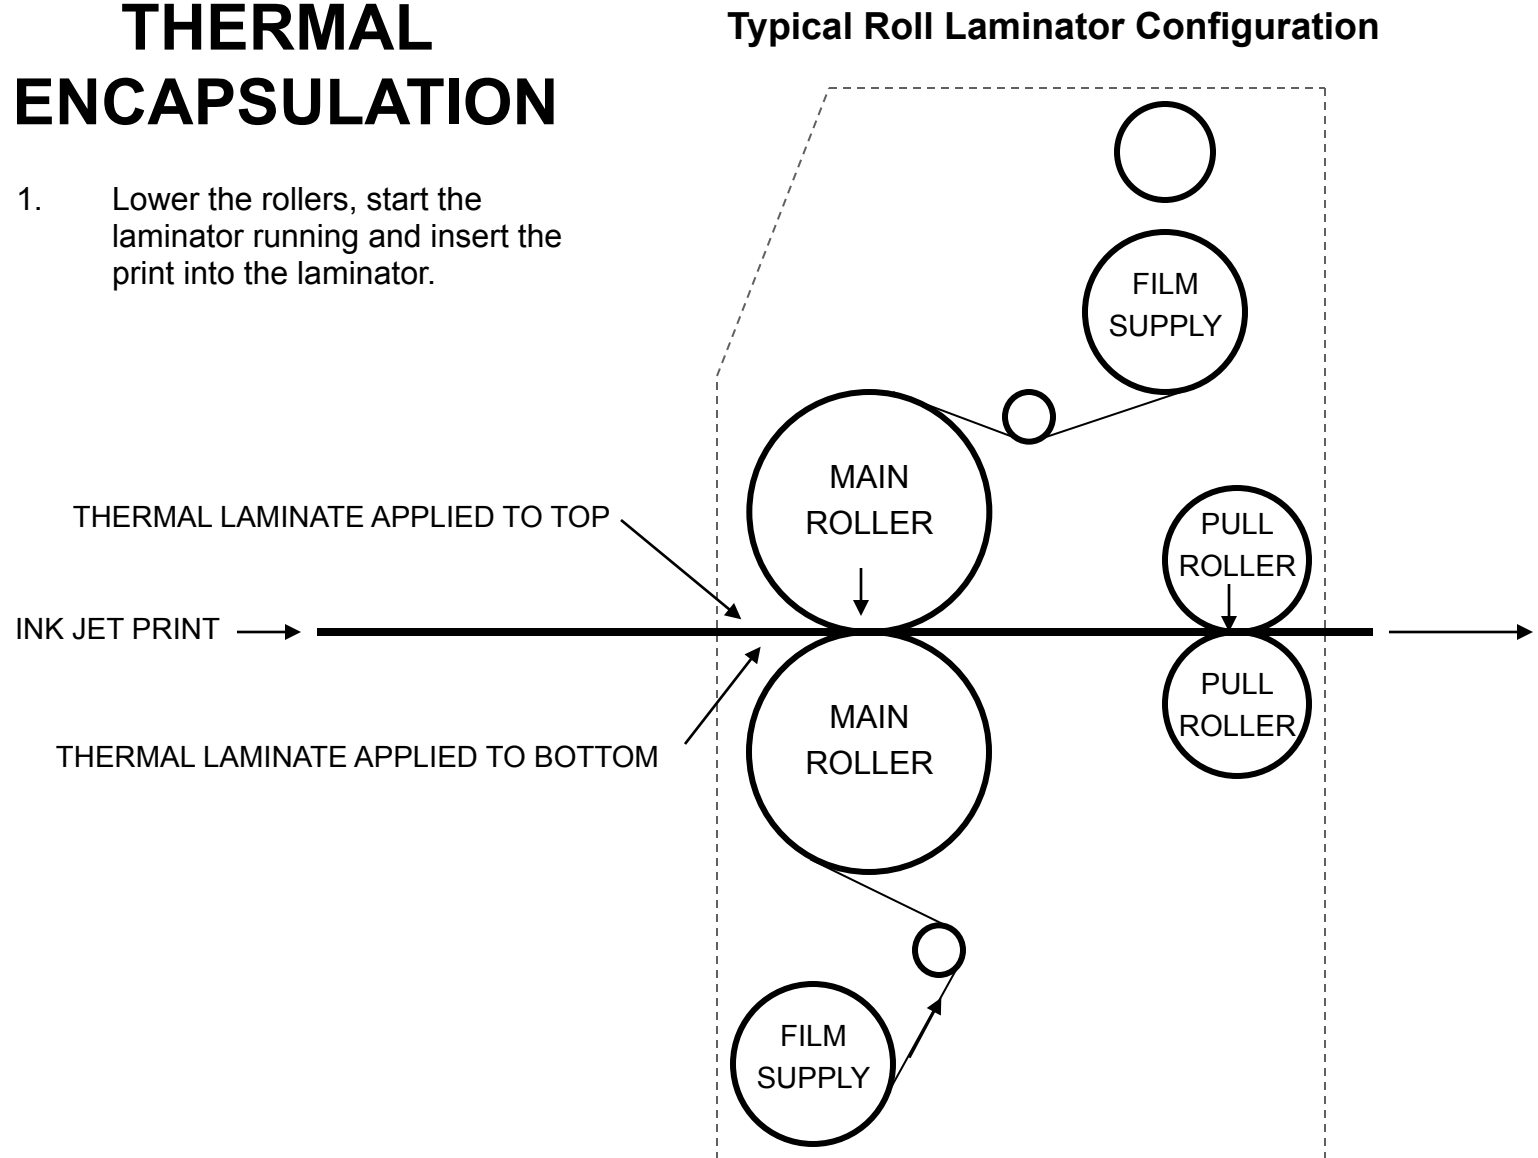

Figure 3 - Encapsulation
6. You can now encapsulate prints as in Figure 3 next page.